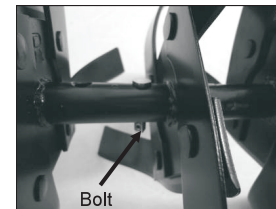
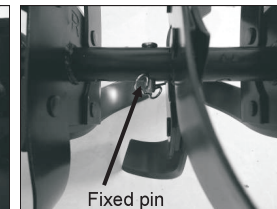

Fig. 2D
Fig.2E
3. Fix the blade assembly with the bolt and fixed pin. (Fig. 2D/ Fig. 2E)